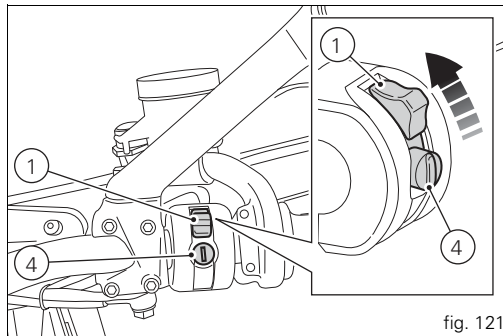

fig. 121
Move the red switch (1) up to uncover the black button (4, fig. 121).
The engine will shut off by turning the red key (1, fig. 121) on the handlebar to RUN OFF.